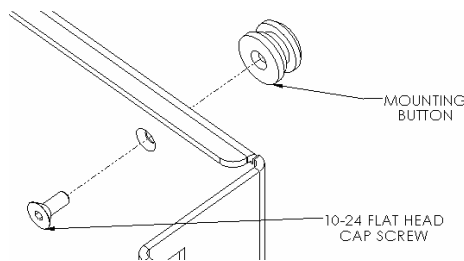
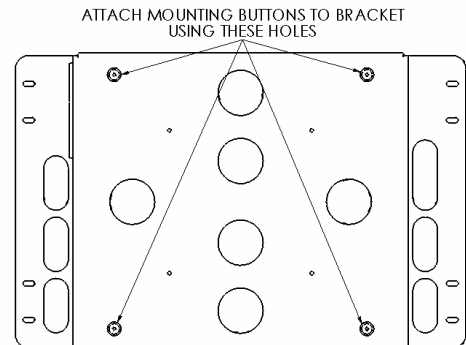

Figure 2
Figure 3
1. Using a 10-24 flat head cap screw inserted from back side of bracket, secure mounting button, with chamfered hole of mounting screw (larger surface) facing bracket, to bracket (four places) (see Figure 2 & Figure 3).